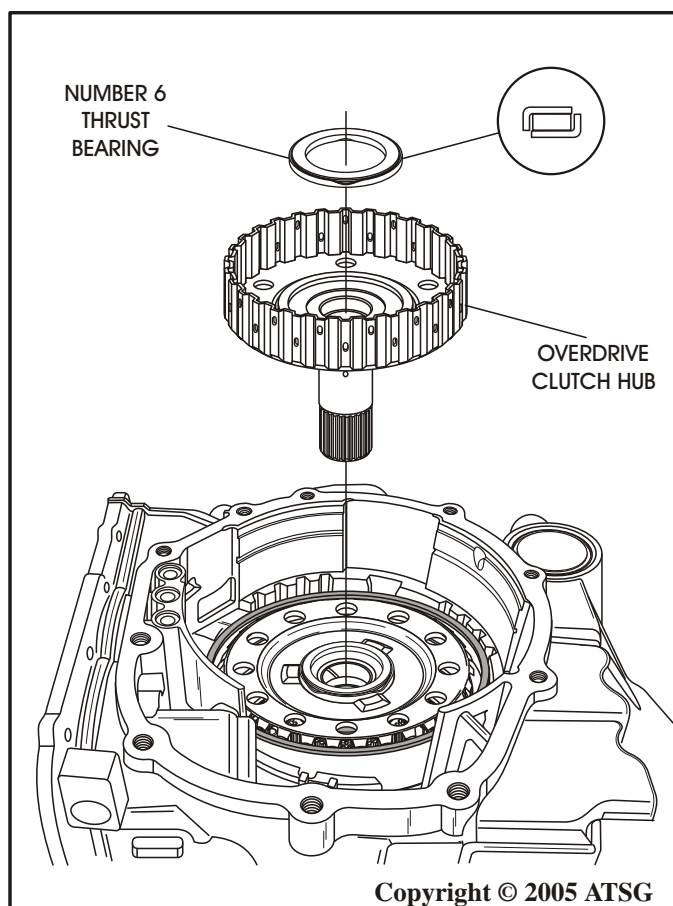

Figure 183
64. Install the overdrive clutch hub, as shown in Figure 183, and ensure that number 6 thrust bearing is installed correctly.